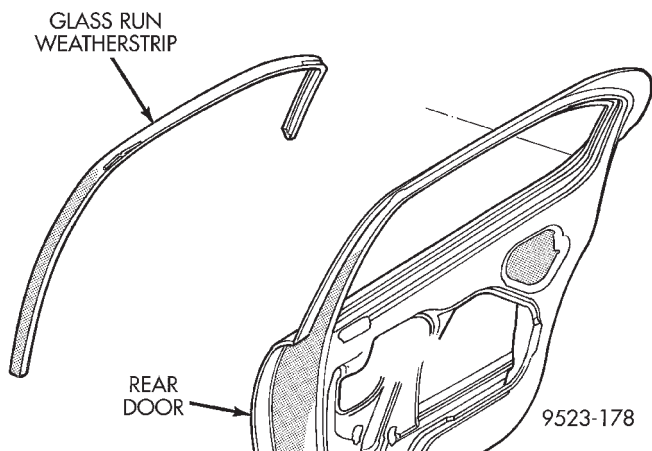

Fig. 56 Door Glass Run Weatherstrip
- (1) Remove door trim panel.
- (2) Remove door glass.
- (3) Pull glass run weatherstrip from door glass opening frame (Fig. 56).